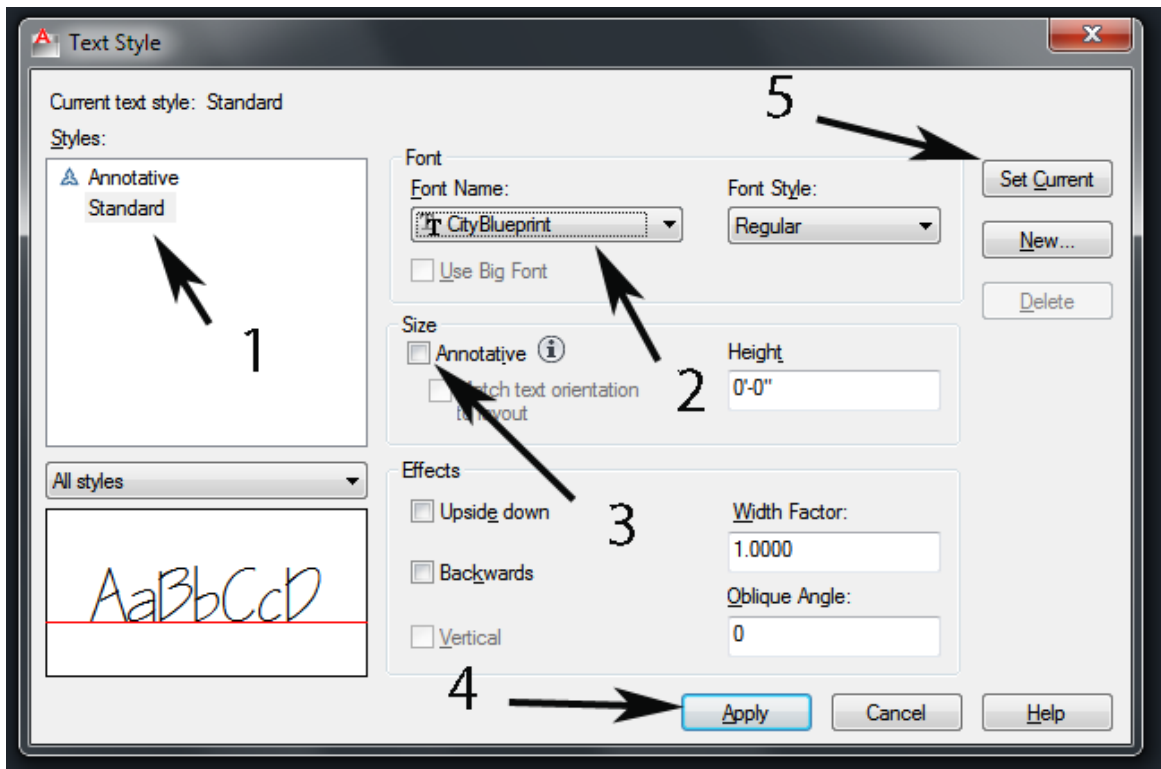

Fig 1-59
Type: **style <e>**. The **Text Style** dialog box will open as in **Fig 1-59**. Click on **Standard** (1 in Fig 1-59). In the window at **Font Name** (2 in Fig 1-59) scroll to **City Blueprint** and click. **Uncheck the Annotative** box. Click **Apply** (4) (if the **Apply** box is not highlighted then skip this step), then **Set Current** (5), and **Close**.